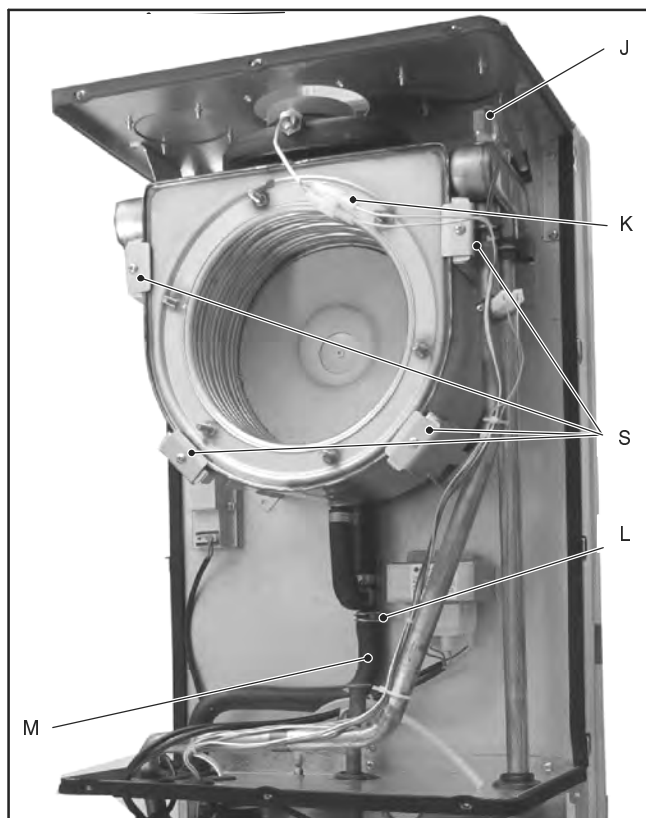

Fig. 5.4
- 8 Disconnect the C.h. temperature probe *J* and the flue temperature probe connector *K* (Fig. 5.4).
- 9 Using pliers, remove the spring *L* moving it downwards and disconnect the rubber pipe *M* (Fig. 5.4).
- 14 Unscrew the screws *S* and remove the clamps (Fig. 5.4).